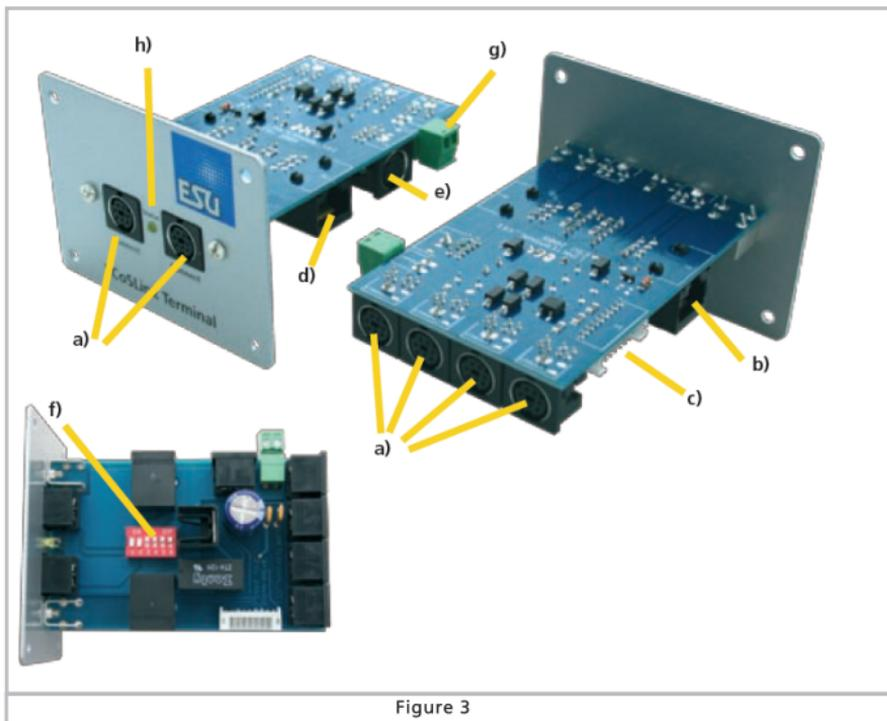

Figure 3
As shown in Figure 3 the ECoSLink Terminal has two sockets on the front and four sockets at the rear. The front sockets are primarily intended for hand throttles or controllers. The hand controller can always be unplugged and plugged in at another location as the ECoSLink bus is "hot plug" capable. The rear jacks are provided for Booster and feedback modules.
- Connect one end of the cable to the bus output RJ45 socket of the first ECoSLink Terminal, see Figure 3, item d, and then,
- Connect the other end of the cable to the bus input RJ45 socket of the second ECoSLink Terminal, see Figure 3, item b. Take great care not to confuse the input and output sockets.
The PSU is connected to the external power supply input, see Figure 3, item g, on the ECoSLink Terminal. Removable terminal blocks make wiring easier. The polarity of the connecting wires does not matter. Once the PSU is turned on, this is recognised by the Terminal. The remaining bus sections are then supplied with power from this PSU. All devices on the bus BEFORE the Terminal connected to the PSU are still supplied by the Master Controller. Figure 8 shows this relationship.